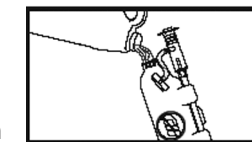

Figure 3
4. Add cleaning solution (Figure 3). See manufacturer's instructions for information on specifications and proper use of cleaning solution.